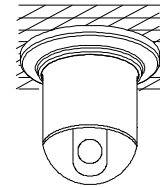

Figure 8
- 5) Figure 8 shows the system is installed.